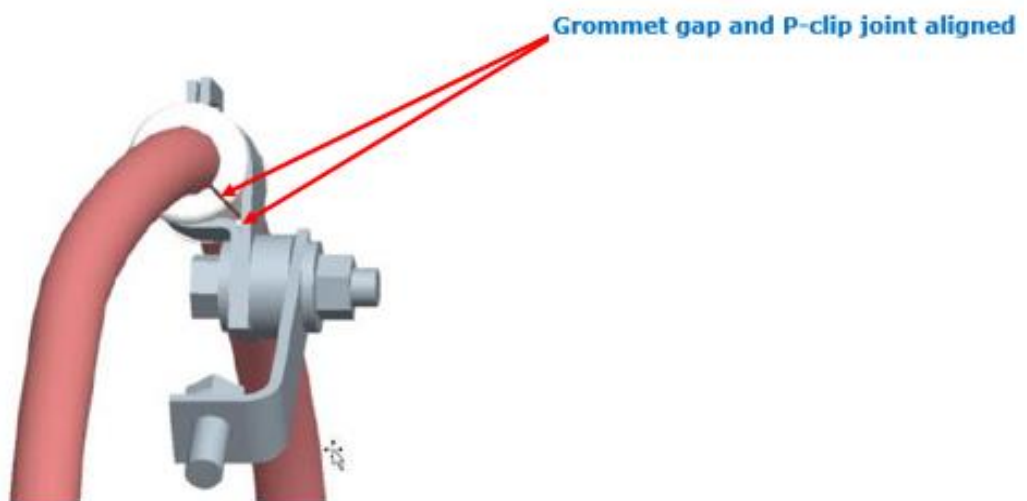

Figure 2. Ensure correct alignment between grommet opening and P-clip joint
- All P-clips must have the rubber grommets fitted with the opening in each grommet aligned with the joint in the P-clip. Refer figure 2.